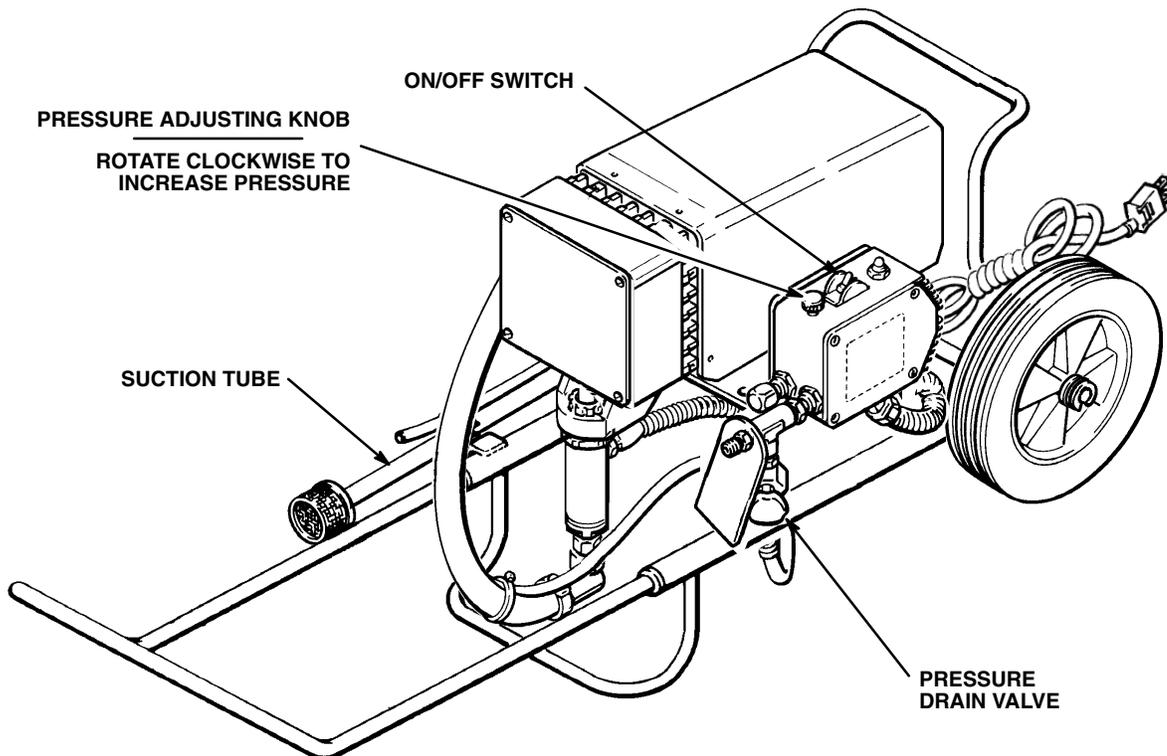

Fig 11-1
4. **Lower the pressure setting** by turning the pressure adjusting knob all the way counterclockwise. See Fig 11-1.